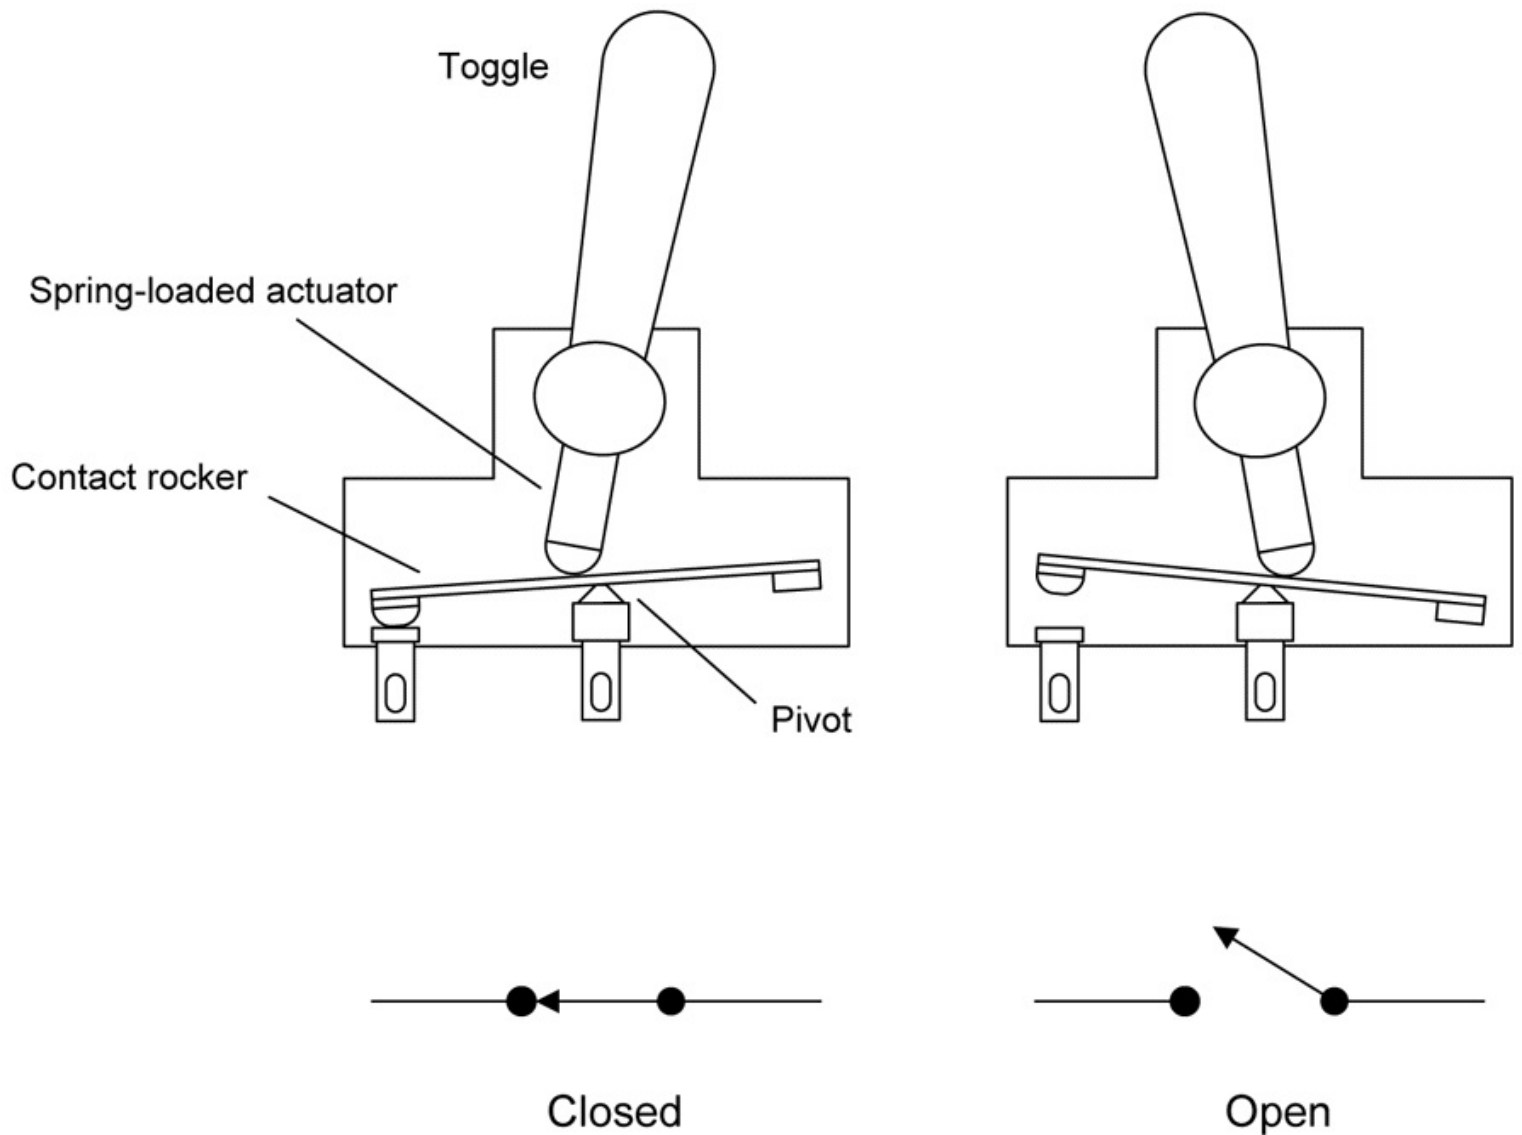

Figure 6-2. Simplified diagram of a toggle switch mechanism
In its simplest form, a switch controls one circuit with one contact mechanism by being either open or closed. **Figure 6-2** shows a simplified illustration of the internal components of a typical modern single-contact switch. This is a toggle switch, covered in more depth in “**Switch Types**”.
The mechanism is simple, consisting of a contactor that can rock into one position or another. The end of the toggle handle inside the switch is a spring-loaded plunger (the actuator) that pushes the contactor to the desired position and then holds it there. As you can see in **Figure 6-2**, the contact rocker will either allow current to flow when in the closed position, or it will be open in the opposite position and no current will flow.
If the switch has only one active position (on or off), it is referred to as a *single-throw* (ST) type. This is the type of switch illustrated in **Figure 6-2** and pictured in **Figure 6-3**. A switch with two active positions (ON-ON) is called a *double-throw* (DT) switch.
The contactor (or *contact rocker*) shown in **Figure 6-2** is also called a *pole* in switch terminology. If the switch has one pole, it is a *single-pole* (SP) type. If it has two poles, it is referred to as a *double-pole* (DP) switch. In a DP switch, the poles are mechanically linked and move in unison, allowing the switch to control two different circuits at the same time.